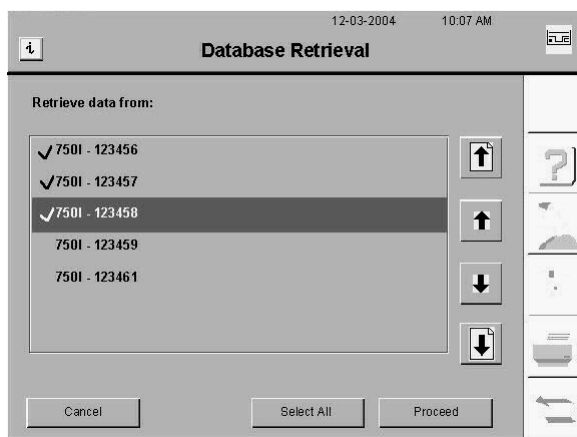

Figure 14.23 Database Retrieval Screen
- 3 A browser window (Figure 14.23) will open to allow you to select the HFAs you wish to retrieve data from. The archives are named with the model number and serial number of the HFA II-*i* from which the data was archived (*e.g.*, 750i-123456). Select the individual HFA II-*i* archives by pressing each entry to add a check mark to the left of it. If you make a selection error, press the entry a second time to de-select it.